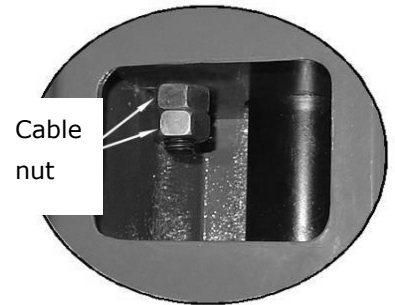

Fig. 36
1. Adjustment of sync cable (See Fig.36)